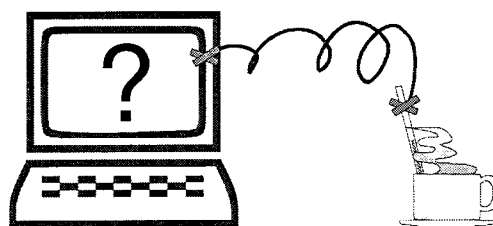

Figure 2
3. Can the measurement system shown in Figure 2 work, why?